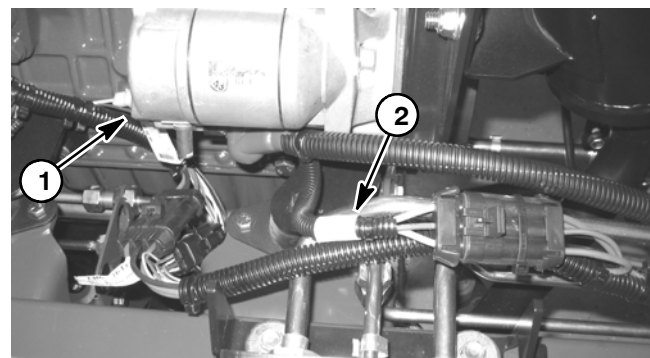

Figure 53
The Reelmaster uses three (3) fusible links for circuit protection. These fusible links are located in a harness that connects the starter B+ terminal to the main wire harness (Fig. 53). If any of these links should fail, current to the protected circuit will cease. Refer to wire harness drawings in Chapter 9 - Electrical Diagrams for additional fusible link information.